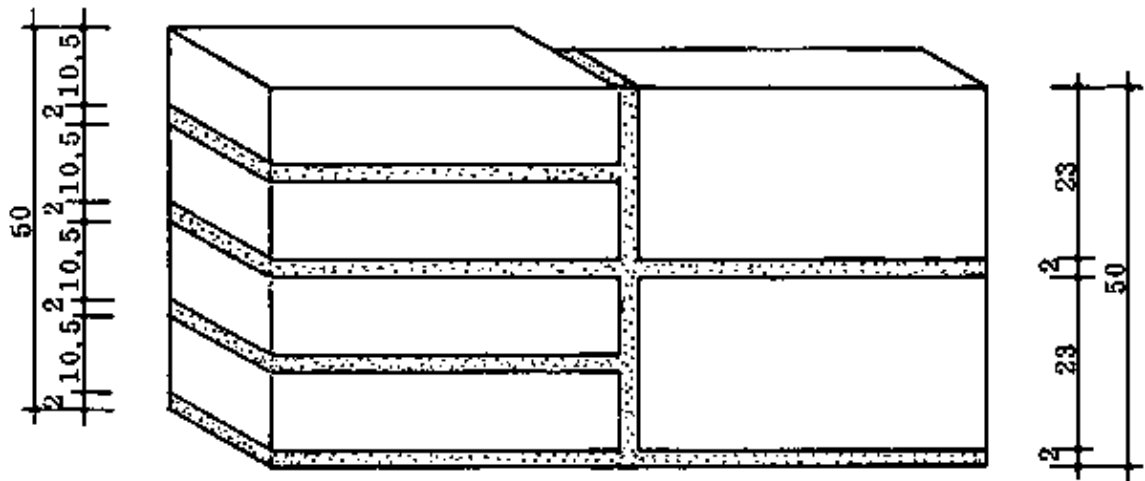

Fig. 2
– COMPARE: Fig. 1 shows a building with no footing. The floor is at ground level and water can easily enter. The building in Fig. 2 rests on a footing and the floor is raised above ground level, so it will be drier and thus healthier to live in, and also less likely to collapse since the mud walls are kept drier.